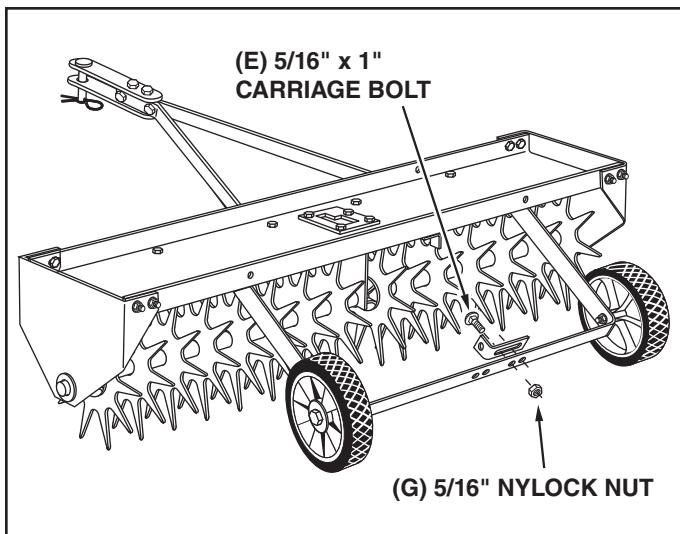

FIGURE 6 REAR VIEW
12. Assemble a hitch arm mount bracket (K) to the axle bracket using two 5/16" x 1" carriage bolts (E) and 5/16" nylock nuts (G). **Do not tighten yet.** See figure 6.